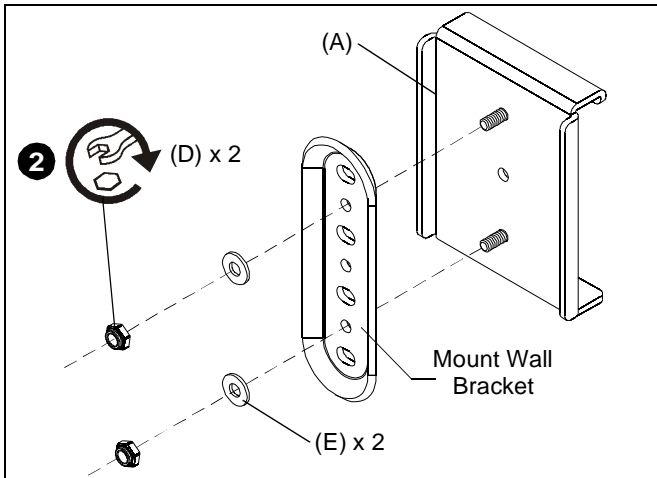

Figure 1
2. Secure mount wall bracket (included with mount) to adapter bracket (A) using two #10 flat washers (E) and two 10-24 nylon lock nuts (D). (See Figure 1)